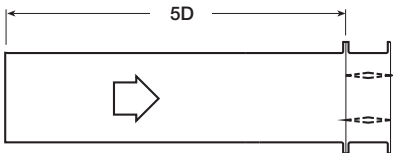

Fig. 5.2
**Figure 5.2** illustrates a ducted damper exhausting air into an open area. This configuration has a lower pressure drop than Figure 5.5 because the entrance losses are minimized by a straight duct run upstream of the damper.